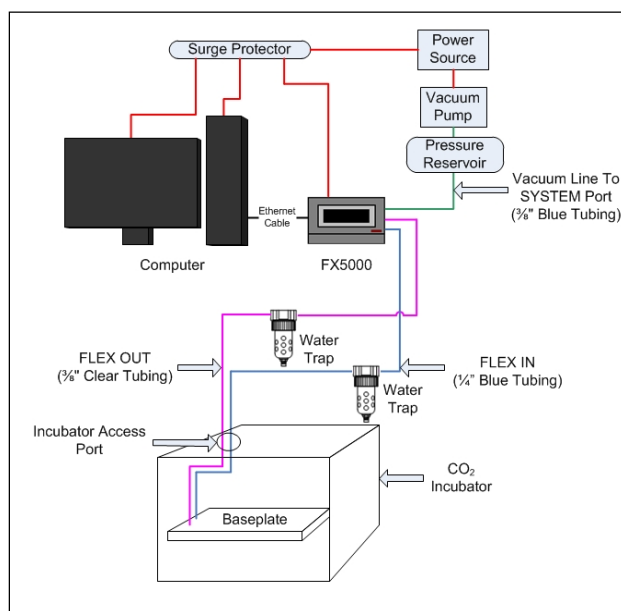
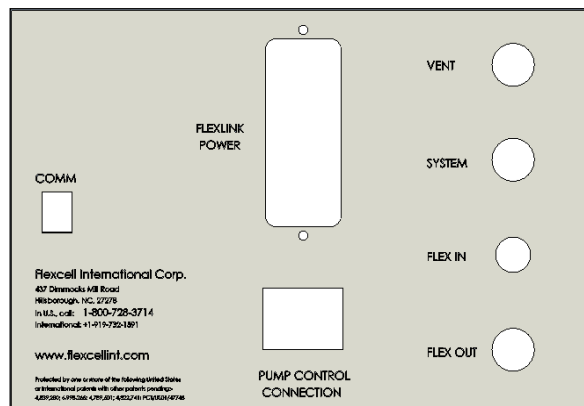
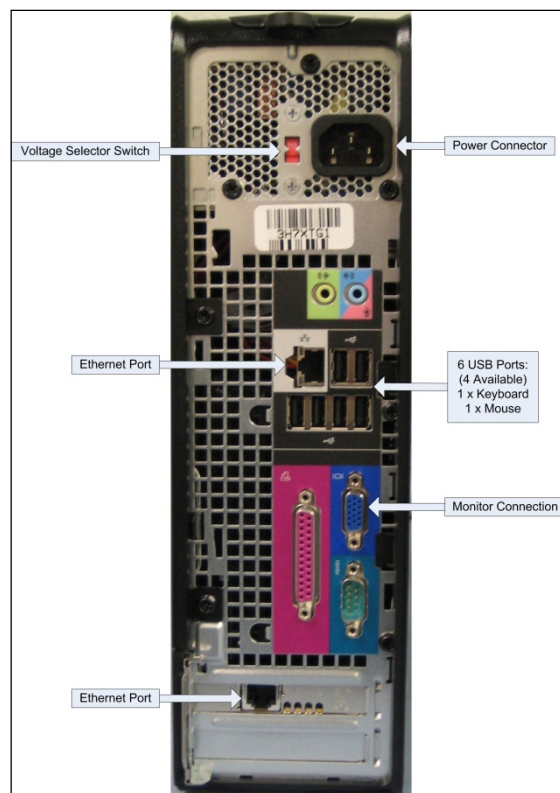

Figure 5. Flexcell® Tissue Train® System
Figure 6. FX5K™ Tension FlexLink® rear view
Figure 7. Dell OptiPlex rear view
Choose a location for the Tissue Train® system (Fig. 5) that is adjacent and as close as possible to the CO2 incubator and vacuum source. A shorter distance in vacuum lines decreases the air flow resistance for elongation and release of the flexible bottomed culture plates, allowing for a greater range of flexing at higher frequencies. The length of the vacuum line should be a minimum of 4' (1.2 m). All tubing and the Ethernet communications cable connect to the rear of the **FX5K™ Tension FlexLink®** (Fig. 6). All cables (mouse, monitor, keyboard, and Ethernet communications cables) will connect to the rear of the **computer** (Fig. 7). The length of
1. Connect the  $\frac{3}{8}$ " (9.5 mm) O.D. blue tubing from the vacuum source to the **SYSTEM** port on the back of the FlexLink® (Fig. 5 & 6).
2. Attach the free end of the clear  $\frac{3}{8}$ " (9.5 mm) tubing to the **FLEX OUT** port on the back of the FlexLink® (Fig. 6).
3. Attach the free end of the blue  $\frac{1}{4}$ " (6.4 mm) tubing to the **FLEX IN** port on the back of the FlexLink® (Fig. 6). The **VENT** port should be left open (Fig. 6).
Connect the power cables (115 VAC or 230 VAC) to the rear power inlet (**FlexLink Power**) of the FlexLink® (Fig. 6). If the available power supply is 115 VAC or 230 VAC, be sure the voltage selection switch ON the computer (Fig. 7) is set to 115 V or 230 V, respectively. When the instruments are completely set up, the power cords should be connected to a **surge protected** power strip and then to a 115 VAC or 230 VAC, 60 Hz power outlet.
**PUMP CONTROL CONNECTION** outlet on the rear of the FX5K™ Tension FlexLink® (Fig. 6 and 10).